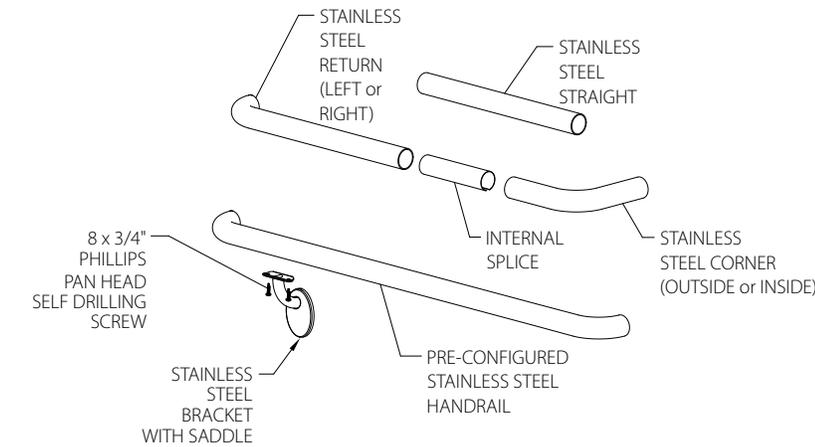

FIG. 1
1. Locate brackets 7" (178mm) from the end of the return and spaced a maximum of 32" (813mm). Using a bracket as a template, mark and drill holes on the bottom of the stainless steel handrail for the bracket saddle. See **Fig. 1**. Drill holes with a High-Speed Steel Jobbers' Drill Bit for Stainless Steel. McMaster-Carr #3020A14, 9/64" [3.5mm] drill bit. (Inpro supplied)